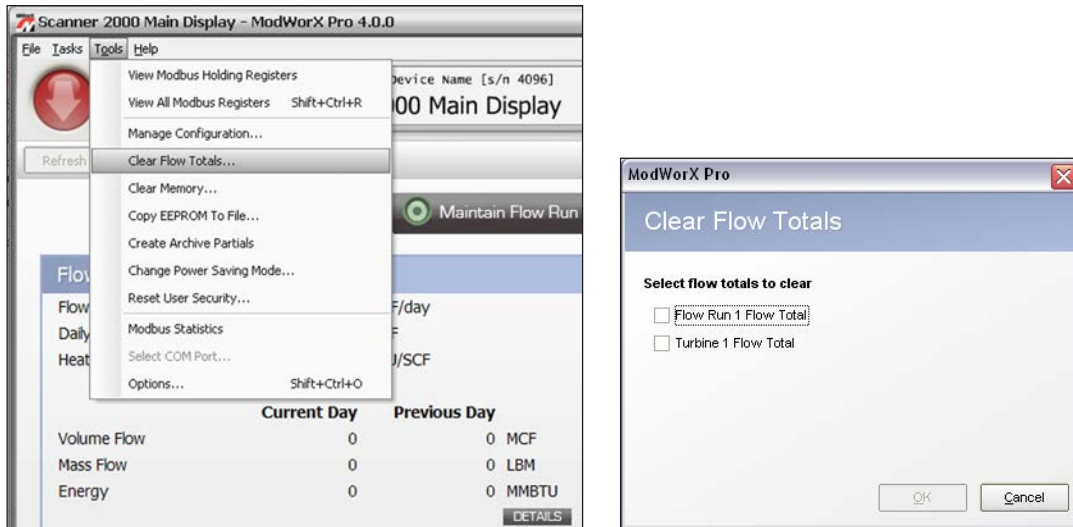

Figure A.7
- Click *Tools>Clear Flow Totals* in the task bar (Figure A.7, page A-6).